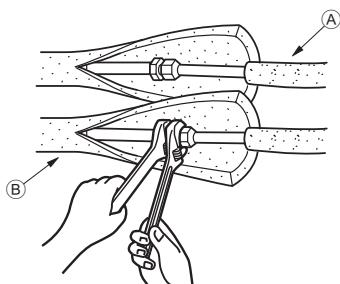

Fig. 4-3
4.4. Refrigerant piping (Fig. 4-3)